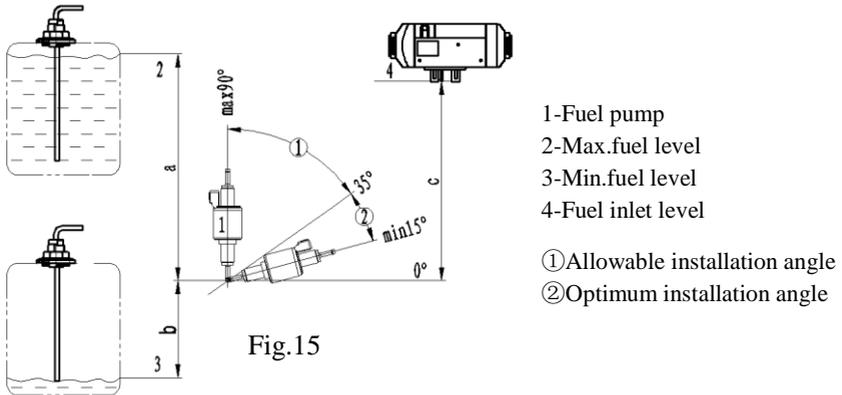

Fig.15
4.4.1 The fuel pump shall be fixed in automobile with a fuel pump clamp with protective rubber cover. The outlet of the fuel pump shall tilt upwards. The tilt angle can be selected from the range of $15^{\circ} \sim 35^{\circ}$ (as shown in Fig. 15). When conditions permit, the fuel pipe between the fuel pump and the heater shall go up gradually.
4.4.3 Difference in elevation between the level of fuel and the fuel pump as well as the difference in elevation between the fuel pump and the fuel inlet of the heater can produce pressure (or suction) in the fuel pipeline (See Fig. 15). So, these dimensions shall conform to the requirements as follows: $a \leq 3\text{m}$ $b \leq 0.5\text{m}$ (Avoid of negative pressure may be produced in sealed fuel tank. In such case, $b \leq 0.15\text{m}$) $c \leq 2\text{m}$.